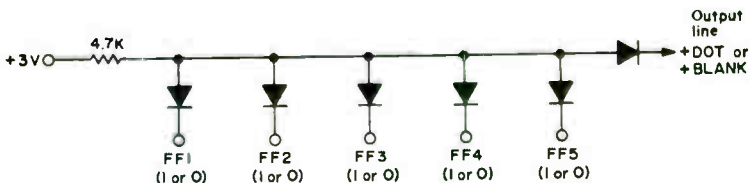
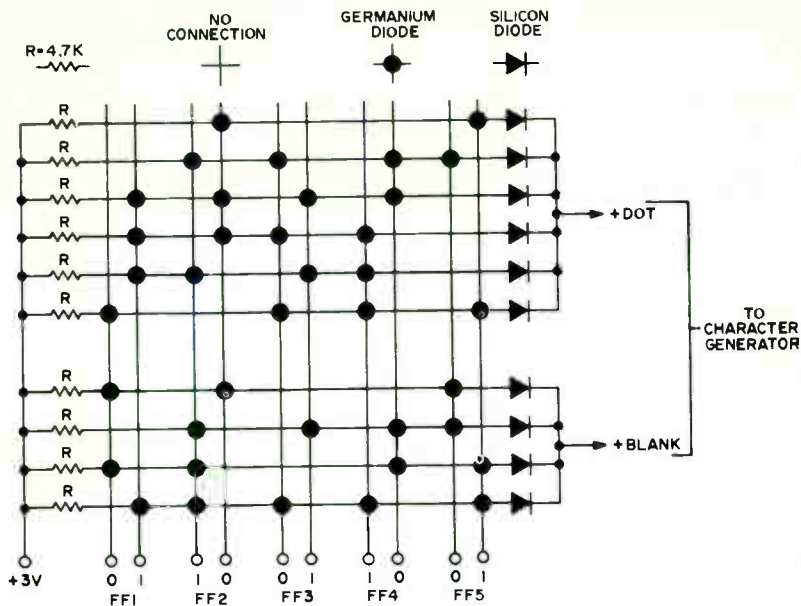

Fig. 5. Diode decoder for program counter.
Fig. 7. Diode read-only memory matrix for "DE W7DBF."
Figure 5 shows the method for decoding the program counter. The five terminals marked FF1 through FF5 are connected to either the 1 or 0 side of the respective flip-flop. If *any* of the five connections is low, then the whole common line is low.
about the second vertical line (the one separating positions 4 and 12), then blank 4 pairs with blank 12, and blank 0 pairs with blank 8. If we fold again, then all four blanks coincide with each other. This is illustrated in Fig. 8. In part A, the program counter states for positions 0 and 8 are compared. They differ in exactly one FF position (FF4) as all pairs must. A single diode decoder of the type shown in Fig. 5 could get both blanks simply by neglecting to connect to FF4. It even saves one and diode.
again they differ only in FF4. In part C, a comparison of the 0/8 with the 4/12 pairs shows that these differ only in FF3. Thus, if a three-input diode decoder of the type presented in Fig. 5 were connected to FF1 (0), FF2 (0), and FF5 (0), it would give a +BLANK for all four desired program counter states (0, 4, 8, and 12). Without this reduction, 24 diodes (six for each blank) would have been required rather than the four actually required. This diode decoder may be found in Fig. 7 as the first line in the +BLANK group.
The foregoing example illustrates the use of a Karnaugh map. The actual reduction is performed as in Fig. 8. It should be noted that some states will not pair, such as blank 27 in Fig. 6. To pick up this blank, a full five-input diode decoder is required. From Fig. 6, we see that for blank 27, the program counter is in state "+ + 0 + +" and the resulting diode decoder can be found in Fig. 7 as the bottom diode line.